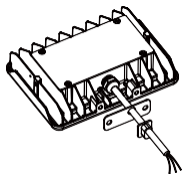

figure 1.4
Step 2: pass the wire through hardware and rubber mat; (figure 1.4)